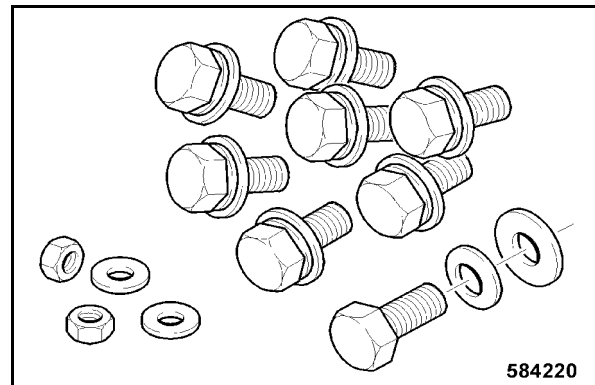

Fig. 200
- Make sure that all fastening screws, washers, spacers and nuts to fasten the cabin are available (Fig. 200).